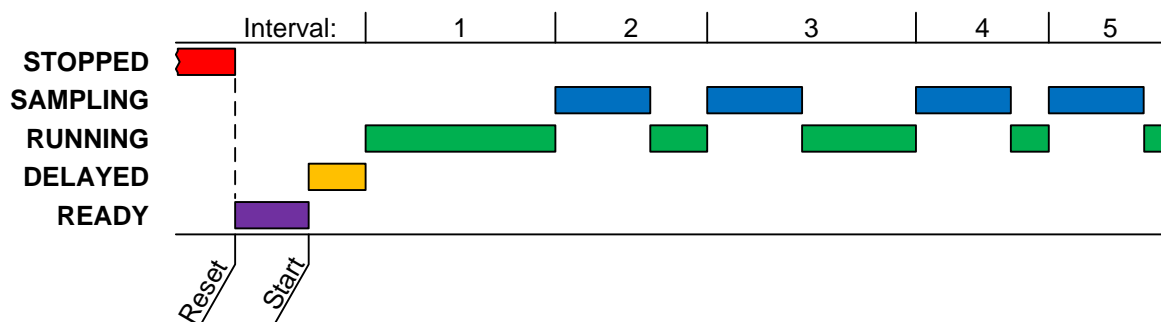

Figure A-3: Basic Sample Timing Diagram
- If a non-zero value (up to 9999 minutes) has been assigned to the Delay Start run Option (see page 54), the first sampling interval will be further delayed by that many minutes (see Figure A-3 on page 93). Until then, the program will display its operating state as DELAYED.